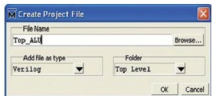

Fig. 5: Create Project File window
5. A Create Project File window pops up. Select an appropriate file name (say, `Top_ALU`) for the file you want to add; choose Verilog as Add file as type and Top Level as Folder (Fig. 5).